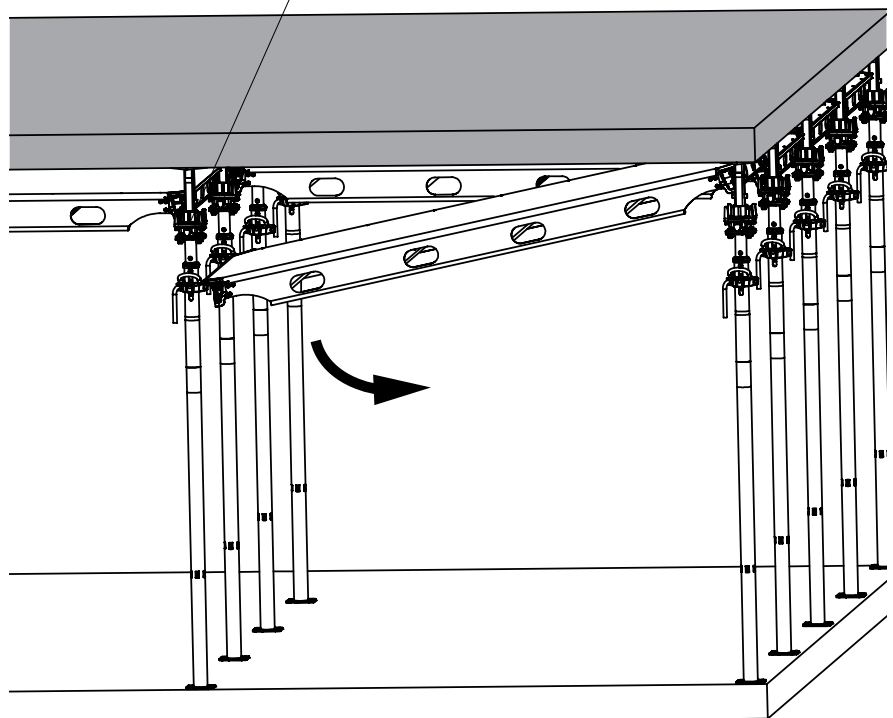

Fig. A11.04
2. Push the panel horizontally till the panel clears the flyplate pin by 30 mm. (Fig. A11.04)